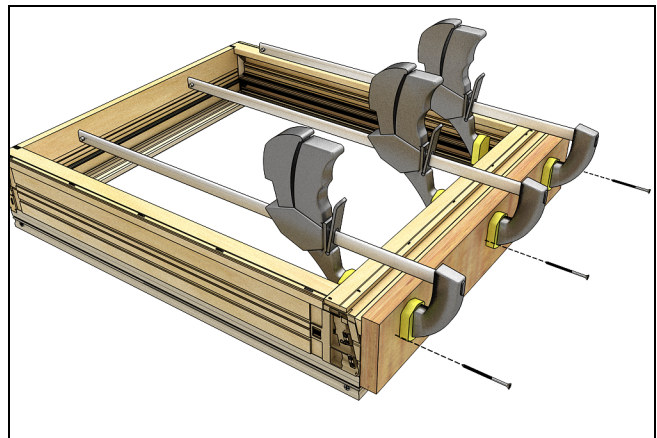

Figure 28
3. On UDH G2 and UGL Horizontal Mulls, clamp the space mull block flush with the interior of the top unit and fasten through the block into the sill with #8 2/3 thread screws 4" (102) from each end and every 12-15" (305-381) after. See Figure 28.